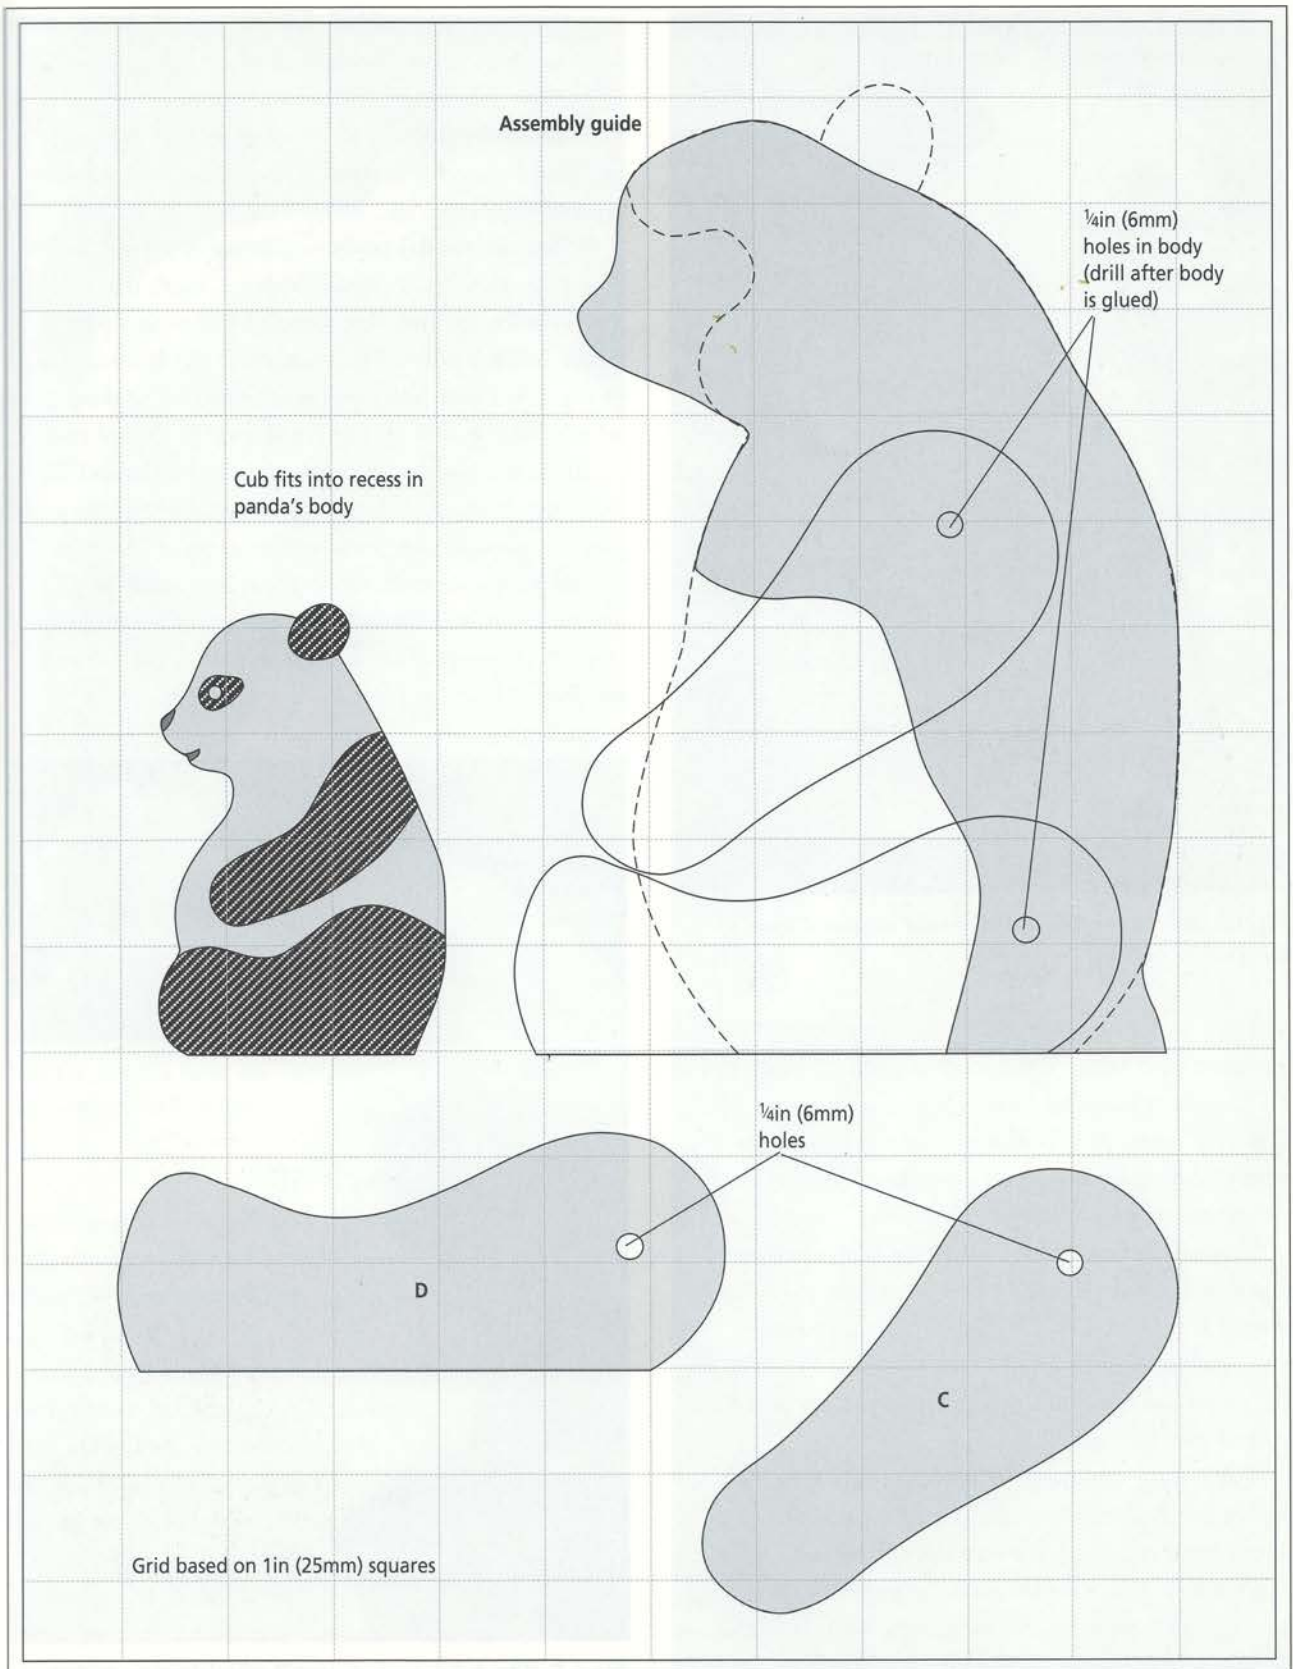

Fig 1.3 Parts C and D. An assembly guide is also shown.
Drill the $\frac{1}{4}$ in (6mm) holes in the fore (C) and hind (D) legs in the positions shown in Fig 1.3.
When the panda's body, consisting of parts A and B glued together, has completely dried, mark the positions for the two $\frac{1}{4}$ in (6mm) holes with a pencil. Then drill the holes. The location of the holes is shown in Fig 1.3. These holes will receive the metal dowels on which the legs will fit. Fig 1.9 shows the drilled holes.